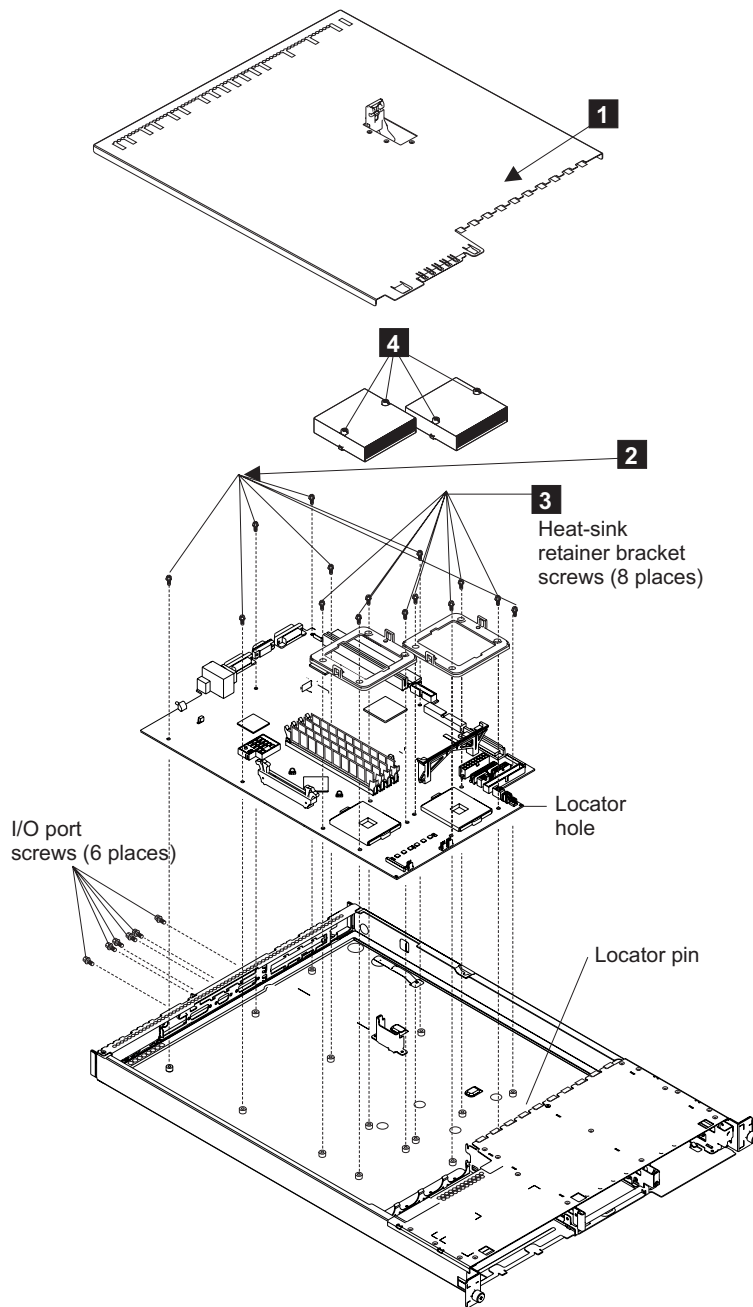

Figure 133. Replacing the system board
2. Replace the seven screws **2**. See Figure 133 on page 354.
5. Replace the screws from each of the heat sink retainer brackets **3**. See Figure 133 on page 354.